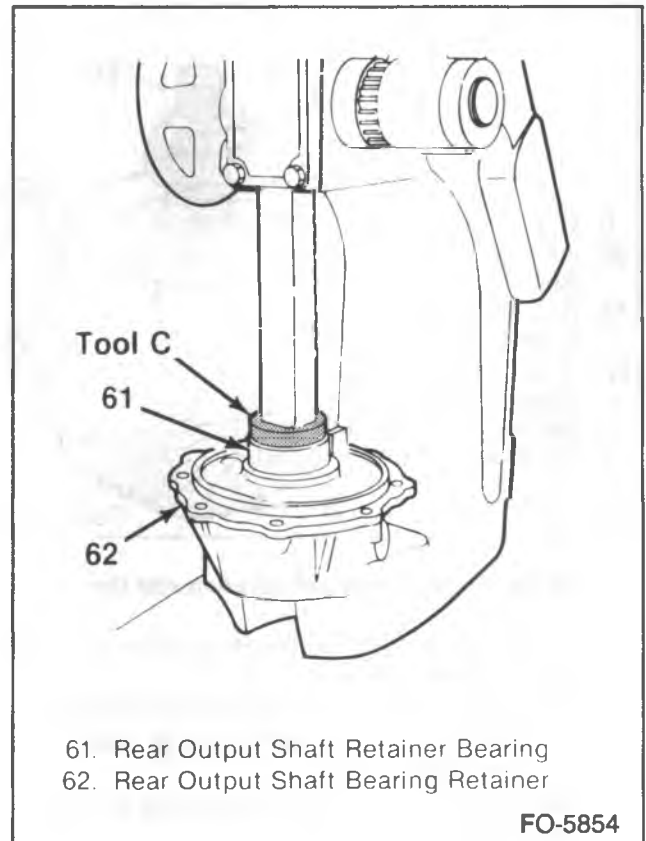

Figure 16—Installing the Rear Output Shaft Retainer Bearing
10. Grease in the pilot bore of the rear output shaft (26).
11. Roller bearings — 15 each (25).
12. Thrust washer (24).
13. New snap ring (23) in the bore.
14. New bearing (61) in the retainer housing (62), using Tool-C (figure 16).
15. Retainer housing (62) onto the output shaft assembly (26).
16. Retainer housing and output shaft to the case (19).
17. Retainer bolts (6).